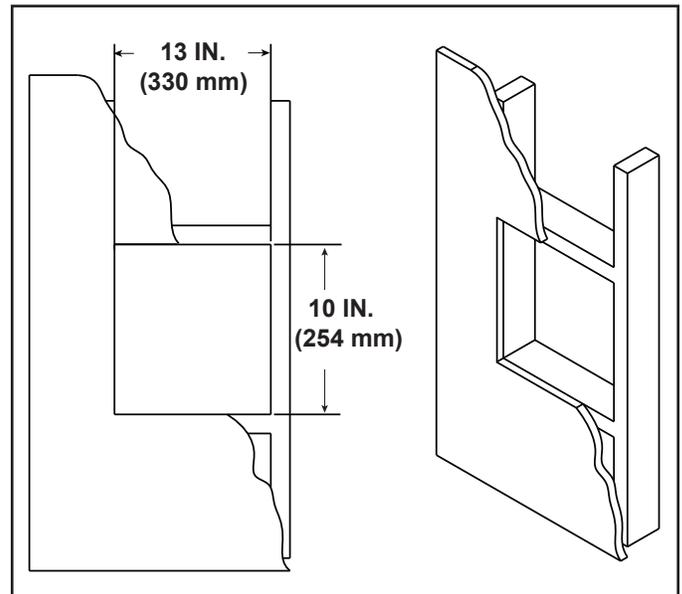

Figure 3.2
1. Construct a framework as shown in Figure 3.2. Framework material should be the same dimensions as the material used for the wall framing. The dimensions of the box must be 10 in. (254 mm) high by 13 in. (330 mm) wide.
2. Cut a 10 in. (254 mm) high by 13 in. (330 mm) wide opening into the exterior of the structure. Stay inside of the newly installed framing as shown in Figure 3.2.